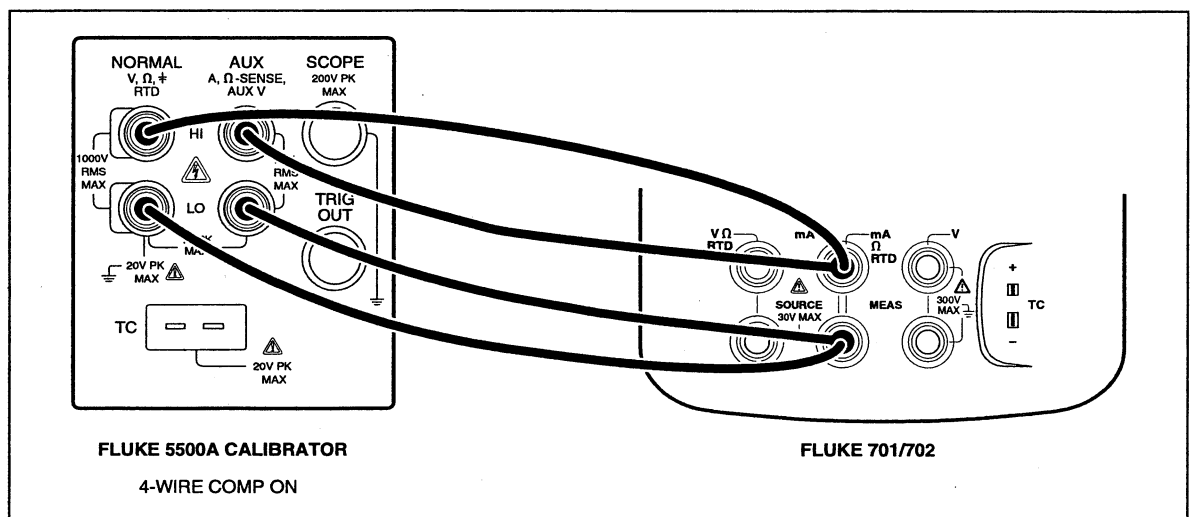

Figure 3-14. Two-Wire RTD Measure Verification Connections
1. Connect the UUT to the 5500A as shown in Figure 3-14.
2. Set the UUT to the RTD measure function, Pt100 (385), two-wire.
3. Set the 5500A to source an RTD, Pt100 (385) at -200°C.